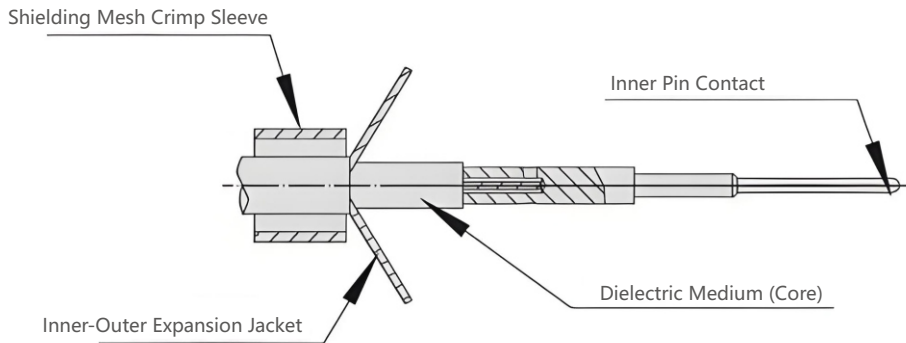

Figure 2.7
- ②As shown in Figure 2.7, proceed as follows: